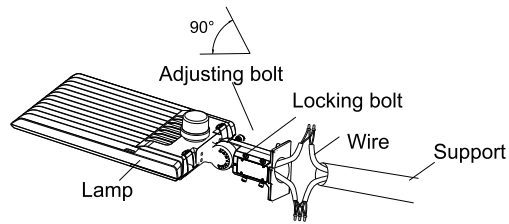

Figure 14
Step 2: Loosen the four bolts on A&D bracket, connect the wires correctly, and pull the wires into the poles. (Figure 14)
Step 3: Place the bracket into the pole and lock the four bolts. (Figure 14)
Notice: Adjustable angle is 0-90° (Figure 14)